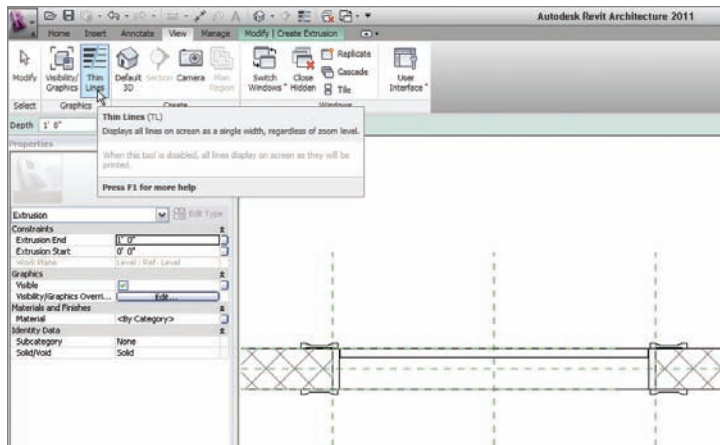

FIGURE 17.25 The finished door in plan
17. Click the Thin Lines button on the View tab, as shown in Figure 17.25. Your door should look like this figure.